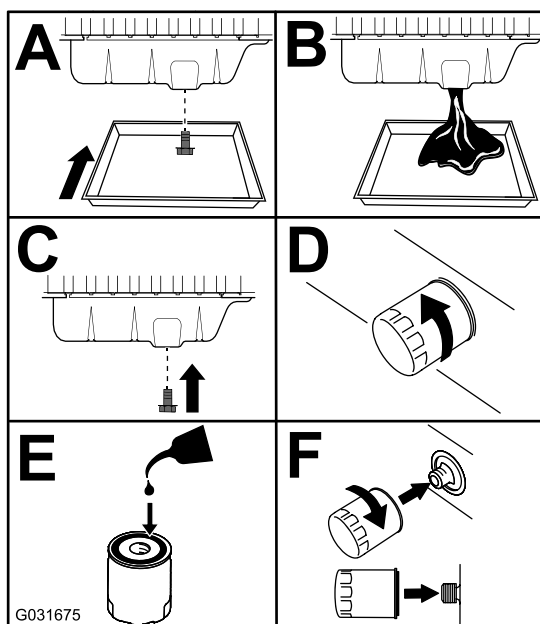

Figure 89
3. Replace the engine oil and filter (Figure 89).